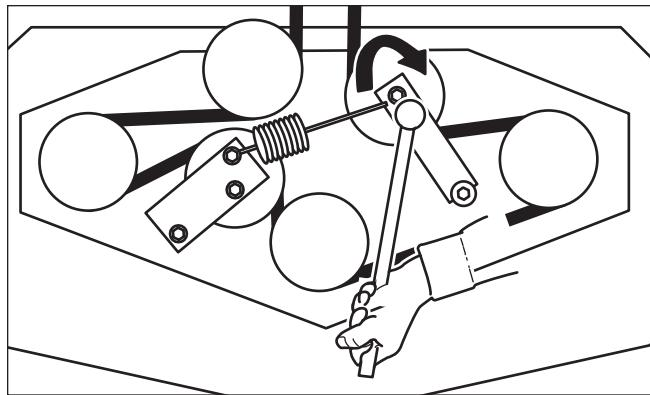

Figure 40. Mower PTO Belt
3. Using a 1/2" breaker bar, place the square end in the square hole located in the end of the idler arm (A, Figures 40). Carefully rotate the breaker bar CLOCKWISE, which will relieve the tension on the belt exerted from the idler arm.
6. Install the drive belt on the PTO pulley, the spindle pulleys and all idler pulleys except the stationary pulley (B, Figure 40). Carefully rotate the breaker bar CLOCKWISE and install the belt on the stationary idler pulley (B). Carefully release the tension on the breaker bar.